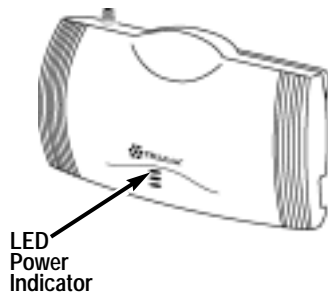

Figure 6
- 5) The LED Power Status indicator (located on the front of the FWT) will turn green immediately upon connecting to power - see **Figure 6**.